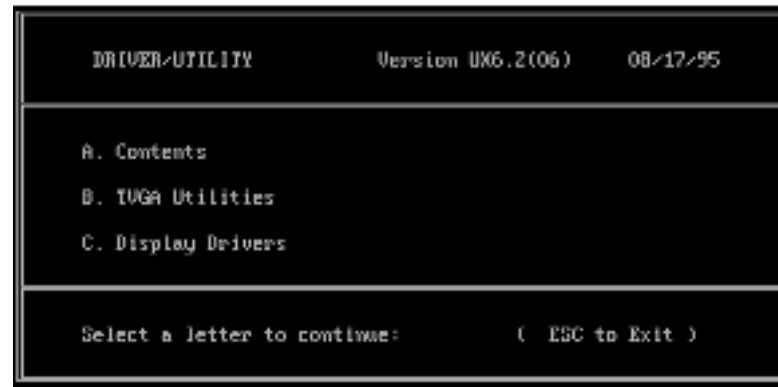

Figure 13
5. Files and subdirectories will be expanded into the newly created directory VGAUTIL. A new menu will then be displayed on the screen, showing a list of on-line instructions (see Figure 13).